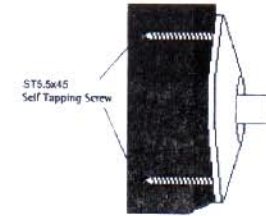

Figure 7
3. Drill holes through the drywall and into the wood stud using a 1/8" drill bit. These holes should be drilled 1-7/8" deep (Figure 7).